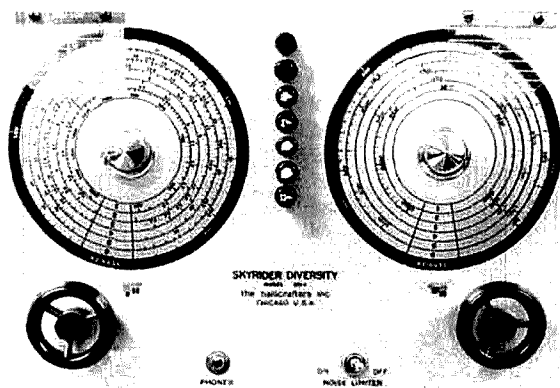

fig. 11. The main tuning dial of the monster. Note the "write by hand" calibration on the bandsread dial.
**Center panel.** The center panel, fig. 11, has the main tuning dial and control on the left and the bandsread dial and control on the right. The controls tune both receivers simultaneously. The small win-